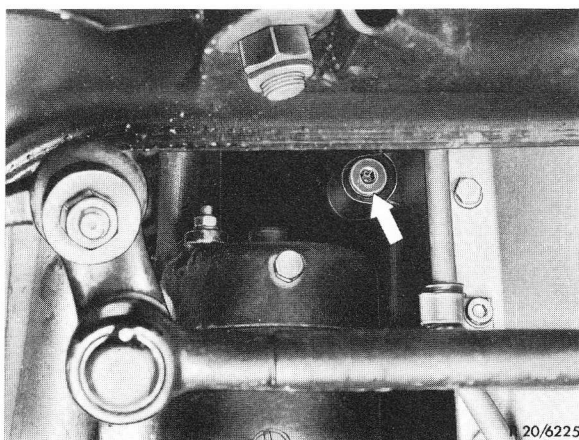

Fig. 1
- 2 Completely drain cooling water from radiator and cylinder crankcase. Drain plugs on crankcase at right and left (Fig. 1).